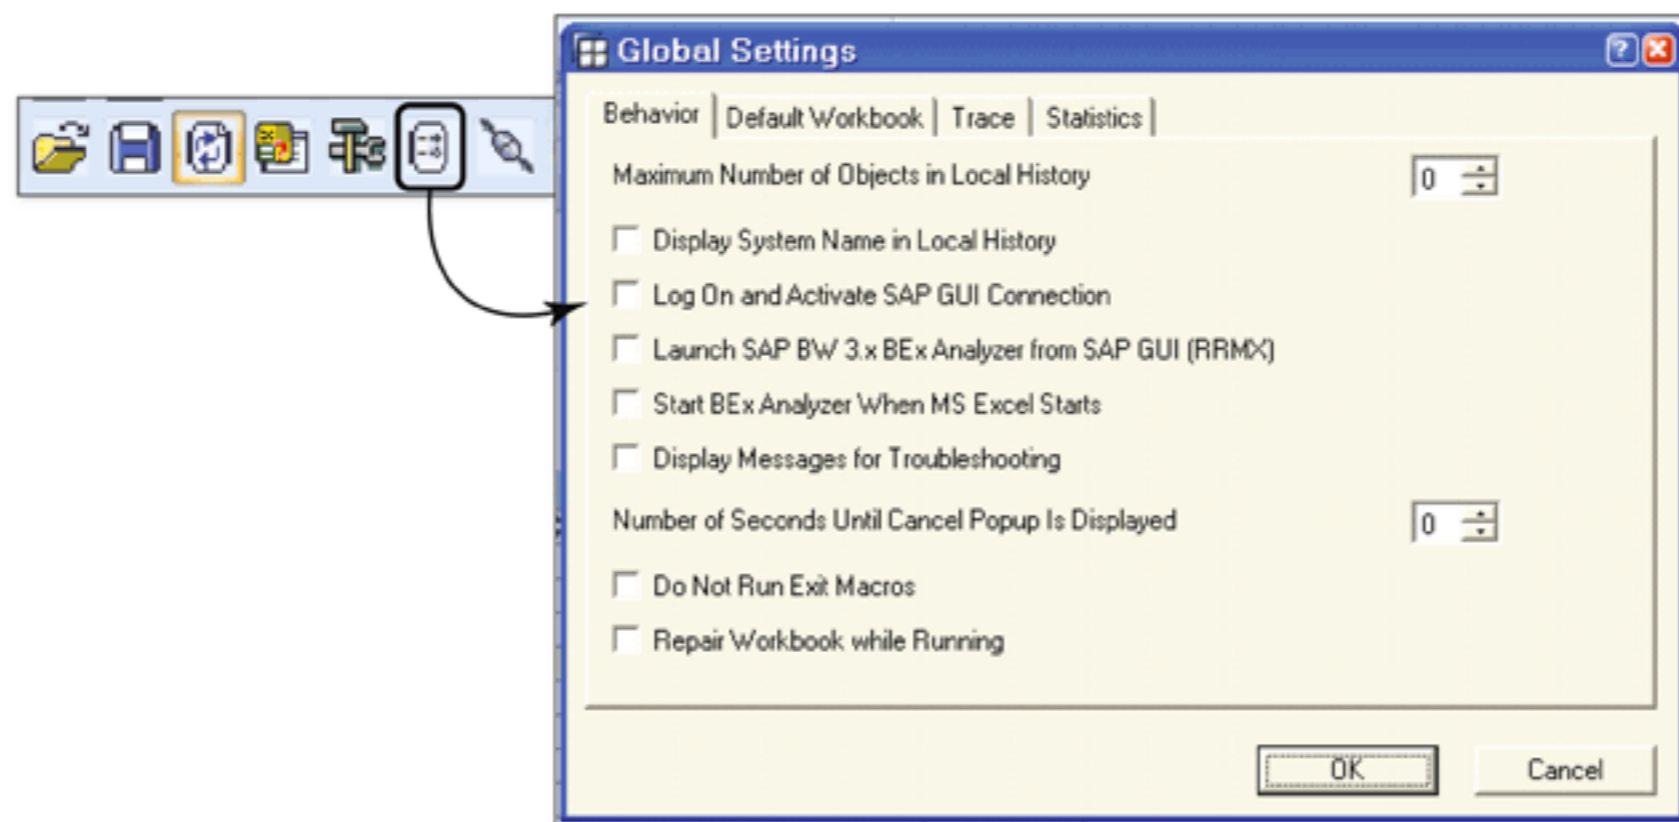

Figure 10.11 Global Settings for BEx Analyzer
Use this button (❻) to maintain different settings for BEx Analyzer. There are four tabs available where you can maintain settings: BEHAVIOR, DEFAULT WORKBOOK, TRACE, and STATISTICS (Figure 10.11).